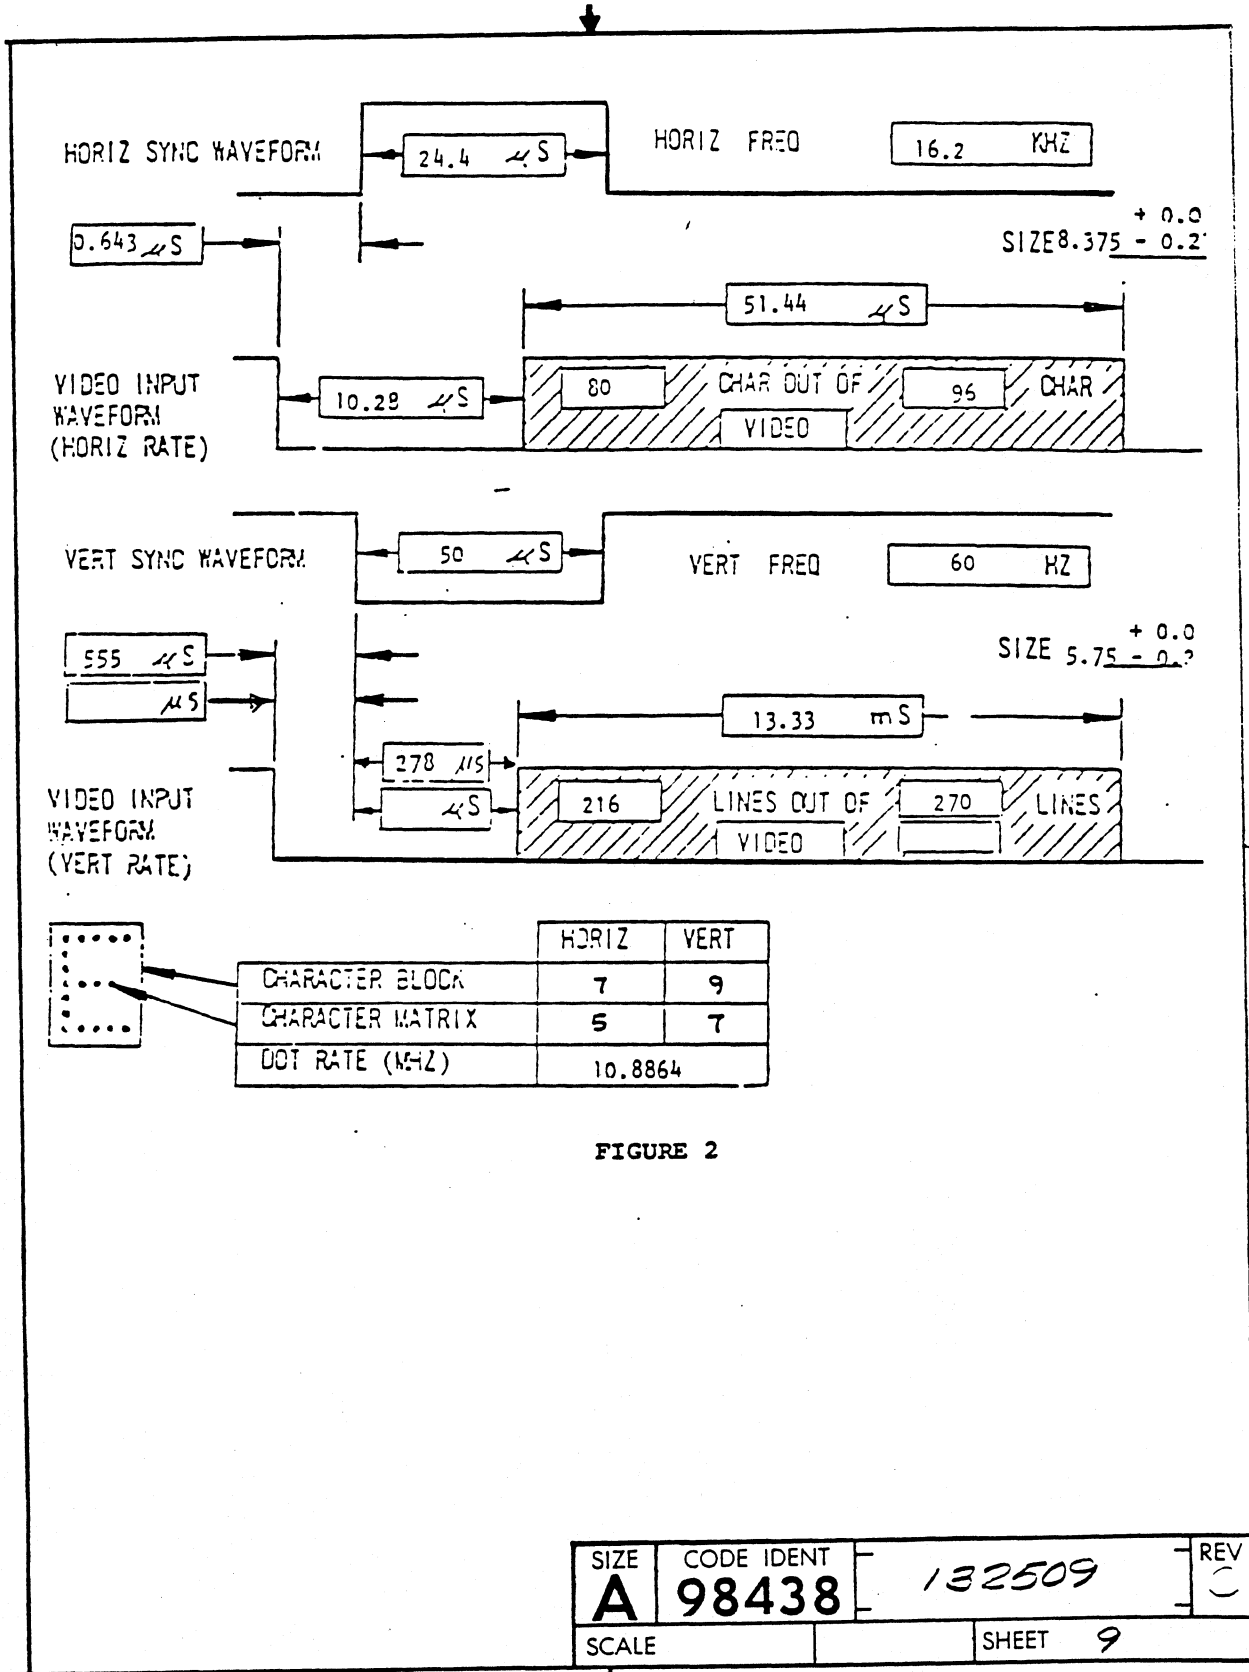

FIGURE 2
- 3.3.5 WAVEFORMS AND TIMINGS - SEE FIG. 2 OR 3.
- 3.4.6 WAVEFORMS AND TIMINGS FOR 16.2 KHZ - SEE FIG. 2, FOR 19.2 KHZ, SEE FIG. 3.